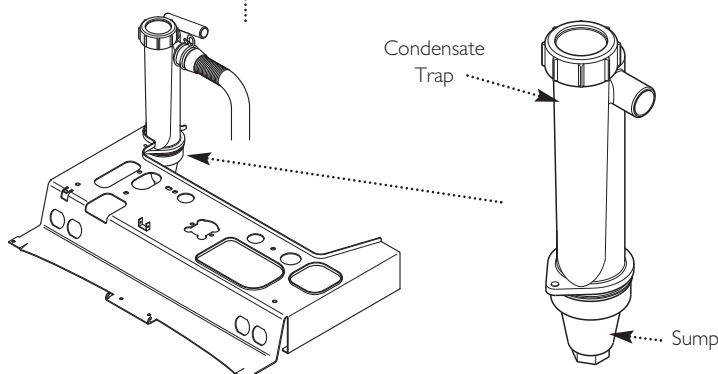

Fig. 48
5. Unscrew the sump from the bottom of the condensate trap assembly (Fig. 48) and remove any deposits from the sump and trap. Clean as necessary and replace the sump.